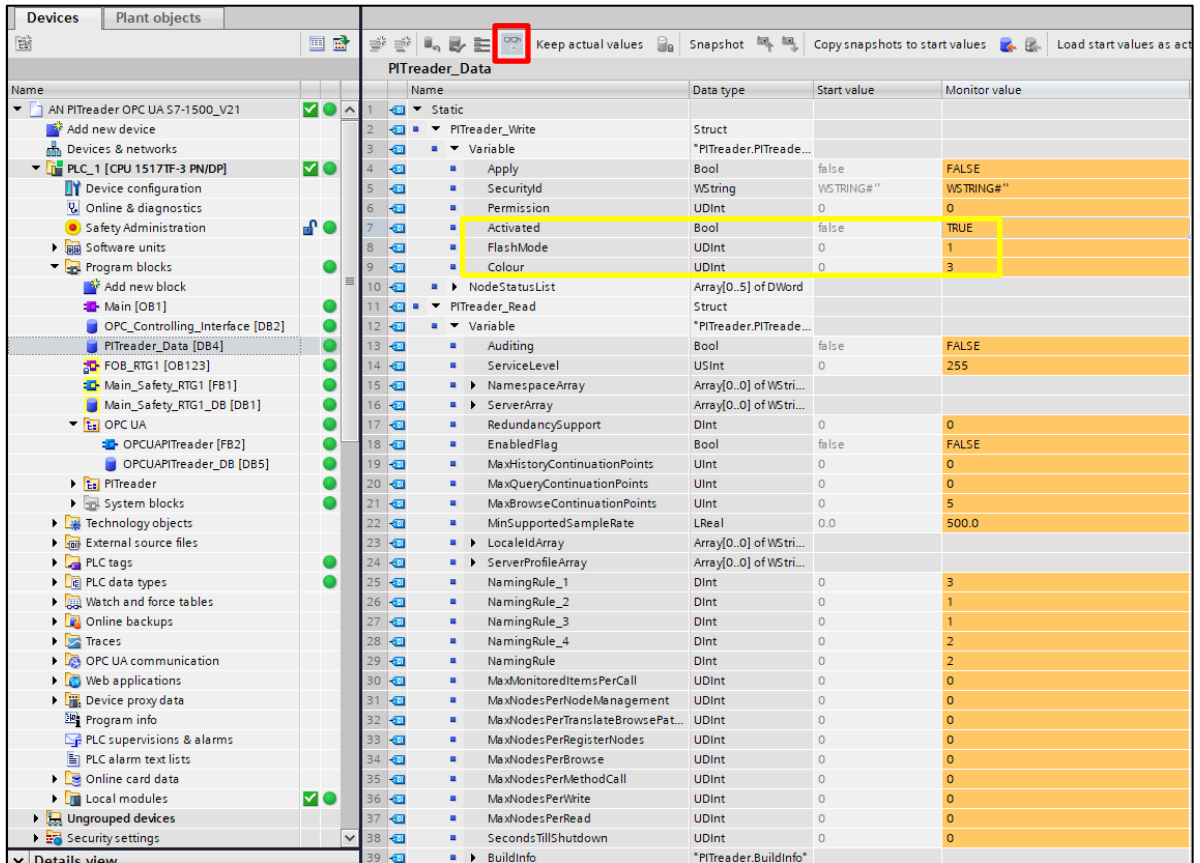

Figure 23: Control the variables on the write list
2. Click on "Watch all" to display the variables' current values (Figure 23 red square).
3. Control the values of the variables "Activated", "FlashMode" and "Colour" as shown in the illustration (Figure 23 yellow square).